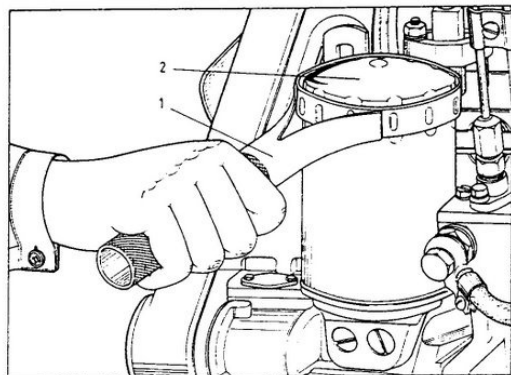

Fig. 5. Oil filter disassembly
- Unscrew the drain plug and drain an oil. Remove the fuel from fuel filter. Unscrew the head of a drain plug of the fuel deposit container. Drain the transmission oil from an advance angle controller (unscrew two plugs located in the cylindrical cap). Unscrew the oil filter with a special wrench (Fig. 5).